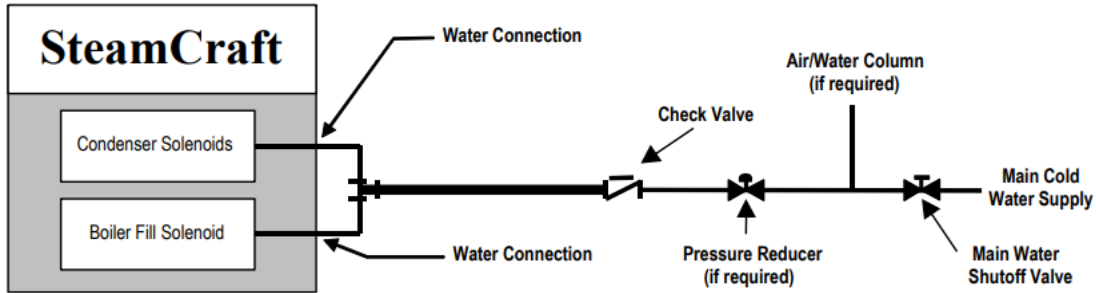

Figure 3-6 Cleveland Range Single Water Supply Arrangement
- c) If the supply water meets the requirements shown in the Warranty, then the Single Water Supply Arrangement shown in Figure 3-6 may be used.